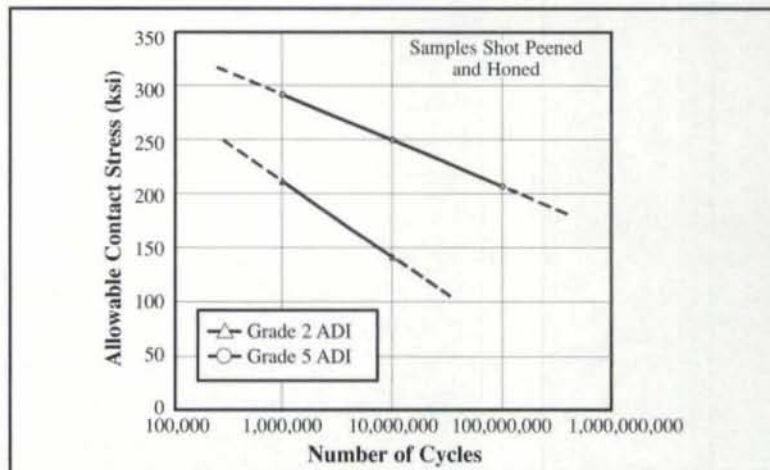

Fig. 4 — Contact fatigue (90% confidence limits). From ASME Gear Research Institute1.
Because the "ausferrite" matrix in ADI goes through a "strain transformation" under high normal stresses, the contact fatigue resistance also is excellent. It can be greatly improved by rolling, grinding and shot peening. Contact fatigue data for grades 150-100-07 (Grade 2) and 230-185-00 (Grade 5) are shown in Fig. 4. The data clearly shows that Grade 5 ADI can replace carburized and hardened steel in gear applications with contact stresses up to and in some cases exceeding 250 ksi.
**Positive Pressure Quenching.** The fast cooling rates required for certain grades of steels led to development of positive pressure quenching for vacuum furnaces. Quenching pressures up to 20 bar (290 psi), but normally 3 to 6 bar (44 to 87 psi) above atmospheric pressure, can yield the cooling rate improvements shown in Fig. 4, over sub-atmospheric cooling. (Atmospheric pressure is 750.1 torr or 1 bar and is acknowledged as absolute atmosphere, so that in practice a vacuum or negative pressure is any pressure below 750.1 torr (1 mm Hg), and any
Fig. 4 — Representative improvements in cooling rates by the use of positive pressure quenching. (a) Effects of gas properties on the cooling of 25 mm (1 in.) diameter steel slugs. (b) Effect of gas velocity on cooling of 25 mm (1 in.) diameter steel slugs. (c) Effects of gas pressure on cooling of 25 mm (1 in.) diameter steel slugs. (d) Range of cooling characteristics in industrial furnaces.